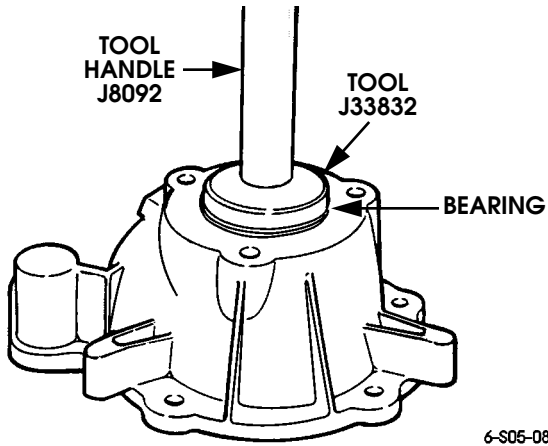

Figure 5-167: Installing Mainshaft Bearing In Rear Retainer
- 36. Install mainshaft bearing in rear retainer (Figure 5-167). Use tool handle J8092 and installer J33832.